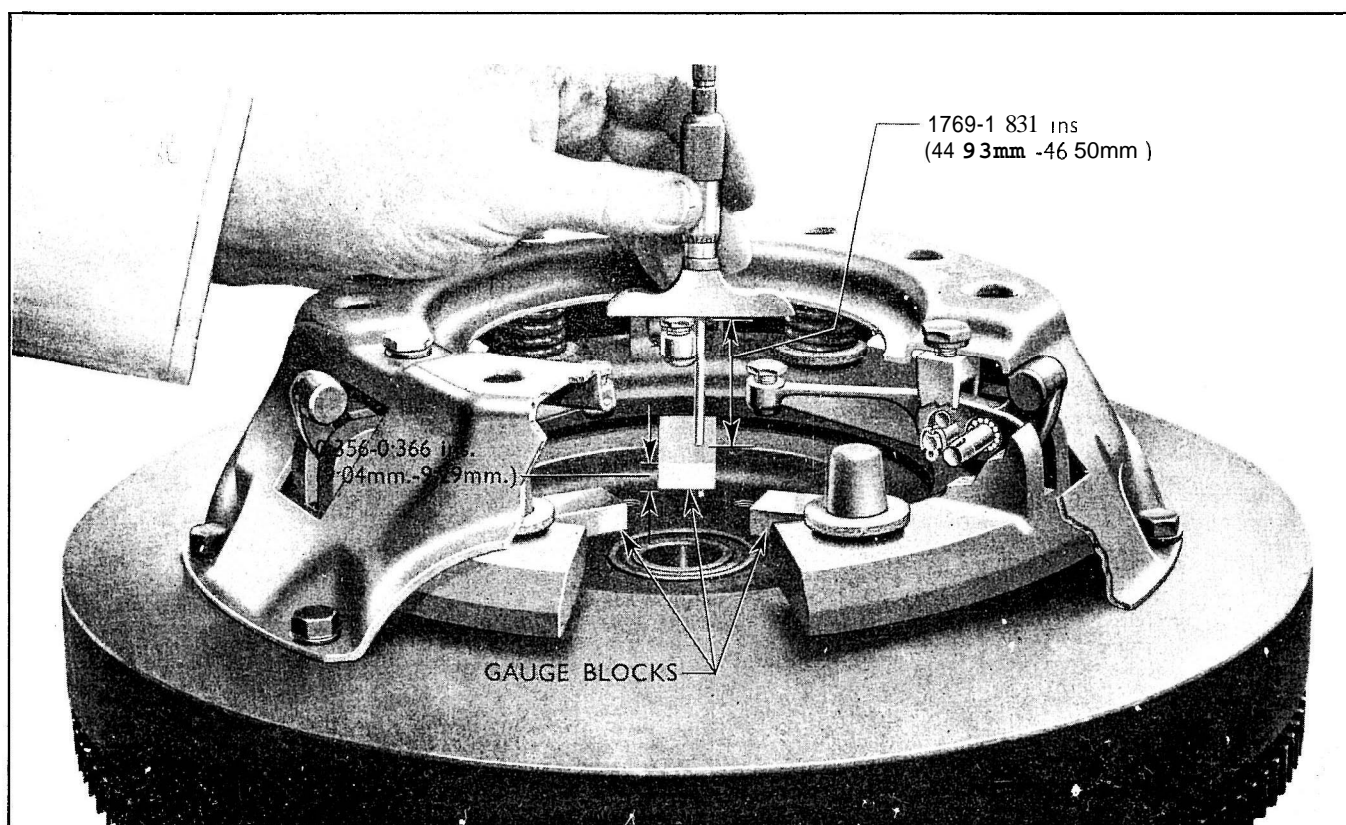

Fig. 278
Note — To carry out the adjustment of the release levers it will be necessary to obtain three gauge blocks which can be made from metal strips 5 ins. (127 mm.) long, 0.356 in.–0.366 in. (9.04–9.29 mm.) thick and 1.0 in. (25.4 mm.) wide. (See Fig. 278.) These are placed between the pressure plate and the flywheel to represent the clutch disc for the purpose of this adjustment.
- 2 Suitably support the flywheel (clutch face upwards) on the bed of a press. (See Fig. 278.)
- 6 Adjust the release lever adjusting screws, using a depth gauge as shown in Fig. 278, so that a dimension of 1.769 ins. to 1.831 ins. (44.93 to 46.50 mm.) exists between the **top** of the adjusting screw and the top face of the gauge block. It is important that the three levers are adjusted in plane within 0.015 in. (0.38 mm.)